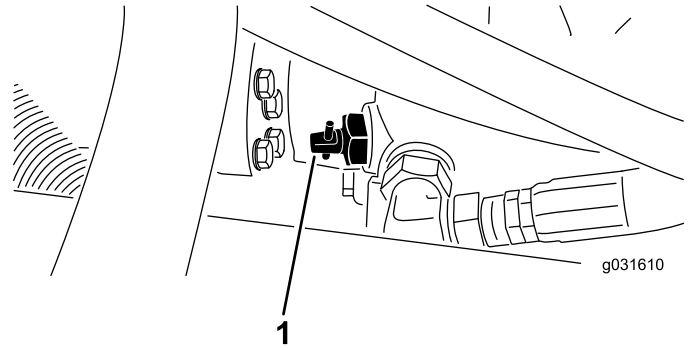

Figure 28
1. Locate the bypass valve on the pump and rotate it 90° (Figure 28).